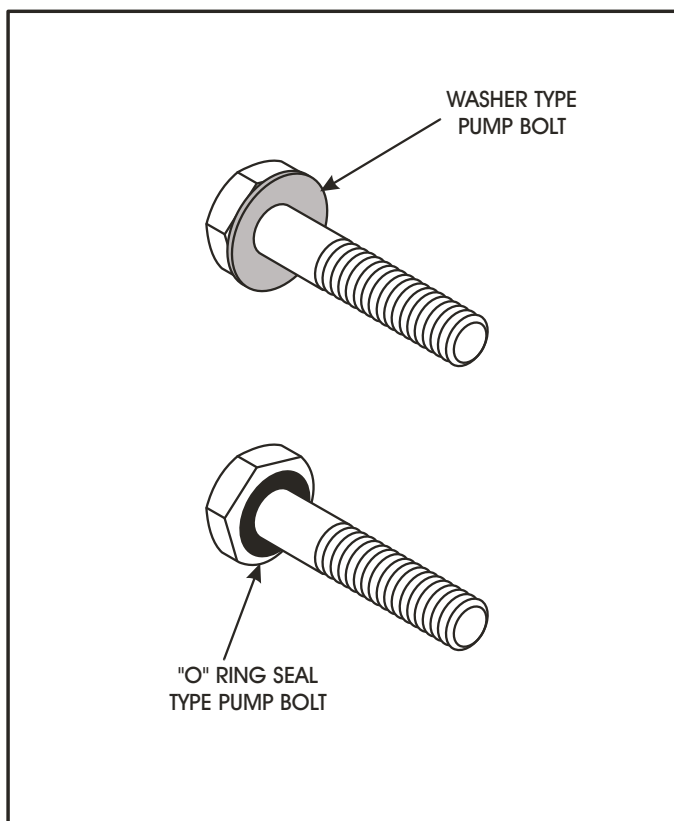

Figure 113
**Caution:** *There are two different types of the pump retaining bolts, one type that uses the fiber washer and one type that uses "O" ring seal as shown in Figure 113. You must use proper type of seal on the appropriate bolt.*